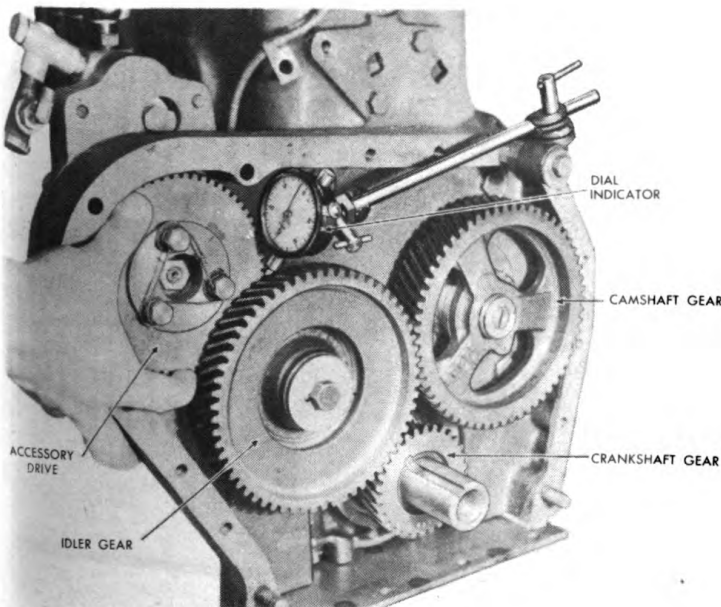

Figure 120. Checking Gear Backlash.
16. Check the backlash on the cam, idler, and crankshaft, gears with a dial indicator, as shown in Figure 120. If the